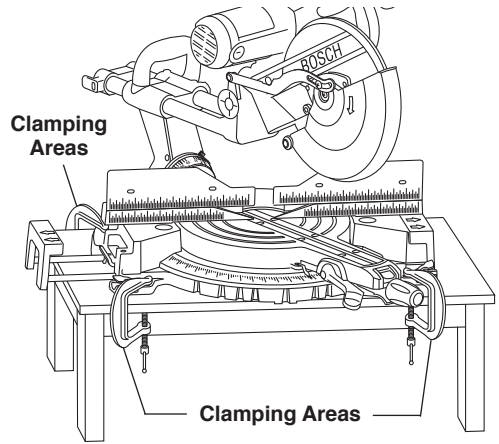

Figure 17. Portable Mounting Using Clamps
- Place two (2) or more "C" clamps on the clamping areas and secure (Figure 17).
- Be careful not to place clamps over the base extension clamping levers (Figure 17).